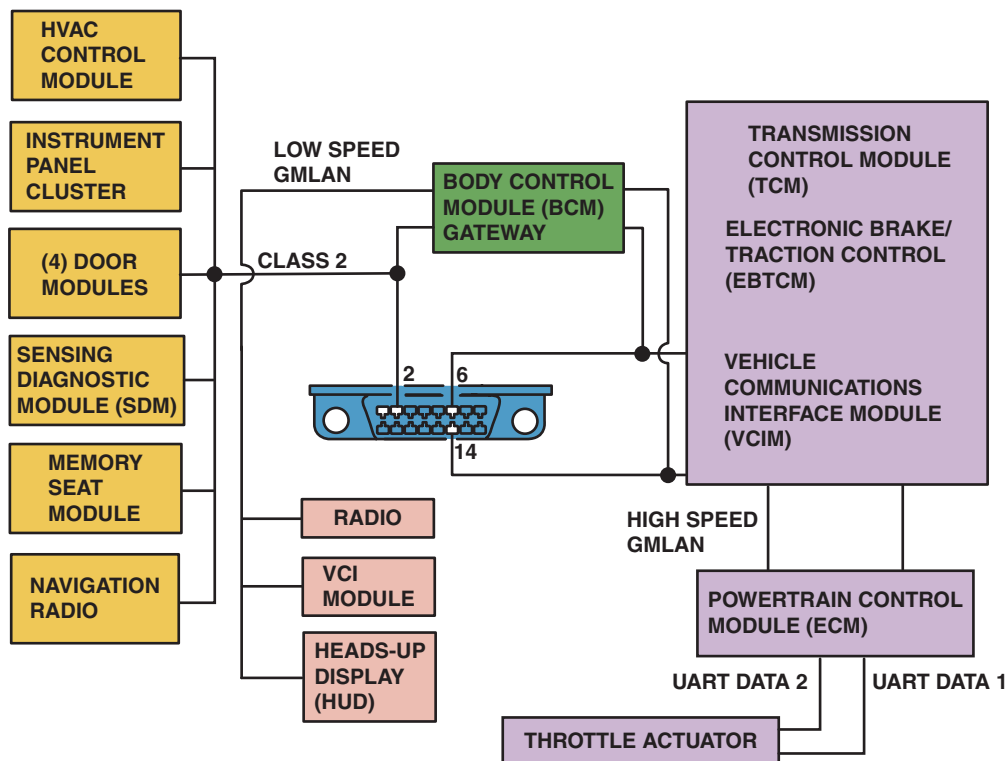

FIGURE 12-31 This schematic of a Chevrolet Equinox shows that the vehicle uses a GMLAN BUS (DLC pins 6 and 14), plus a Class 2 (pin 2) and UART.
Many General Motors vehicles use more than one type of BUS communications protocol. Check service information (SI) and look at the schematic for computer data line circuits, which should show all of the data BUSES and their connectors to the diagnostic link connector (DLC). ● **SEE FIGURE 12-31.**